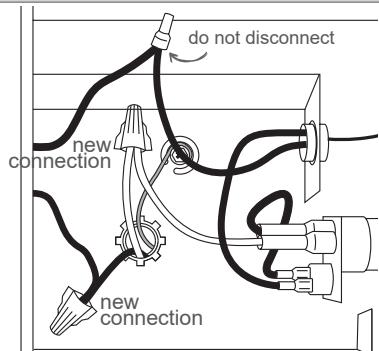
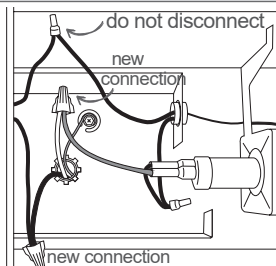
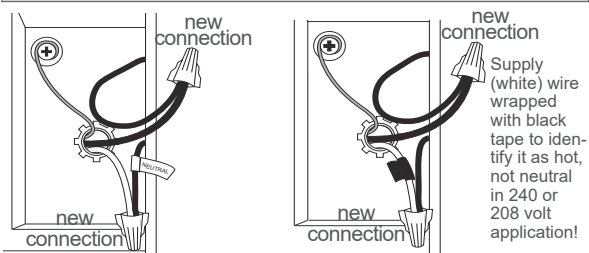

Figure 3
Figure 4
Figure 5
- For 120 volts, connect the neutral (white) supply wire to the white heater wire on the left end (Figure 3). On the right end, connect the wire labeled NEUTRAL to the white supply wire (Figure 5).
- C. For 208 volts, connect the neutral (white) supply wire to the orange heater wire on the left end (Figure 4). On the right end with a neutral supply, connect the wire labeled NEUTRAL to the white supply wire (Figure 5).